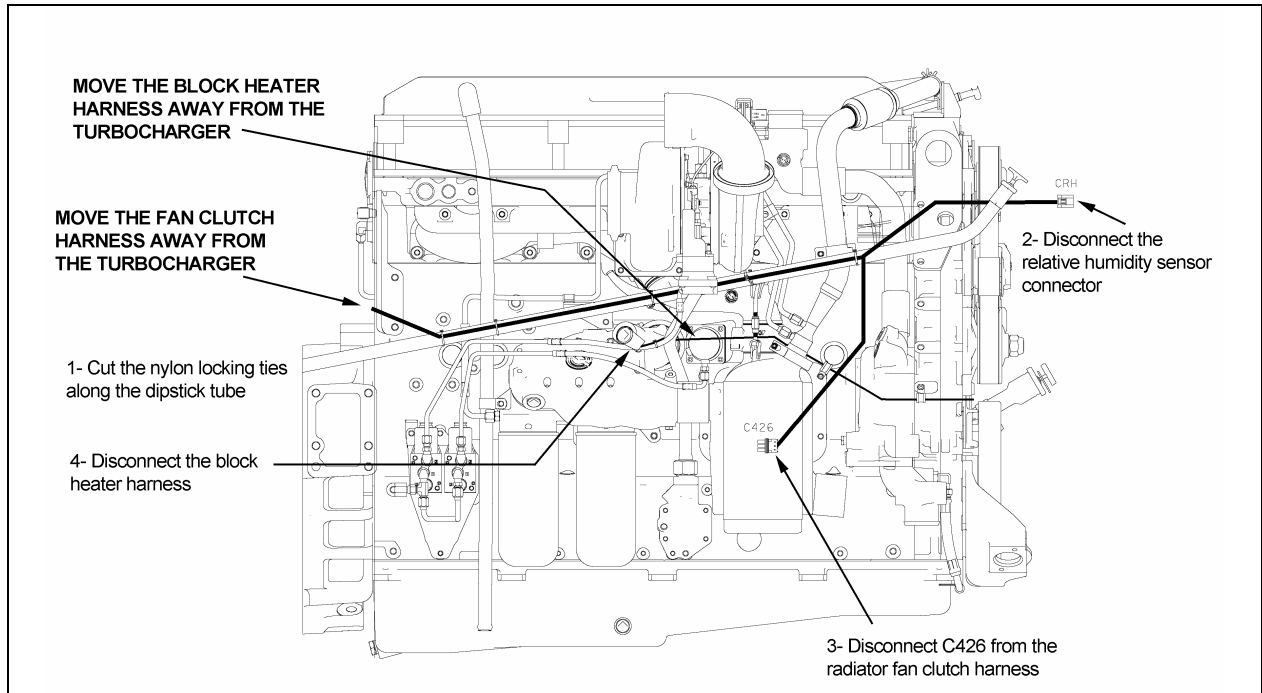

FIGURE 1: MOVE TWO HARNESSES
1. Move the block heater harness and the radiator fan clutch harness as described in figure 1.